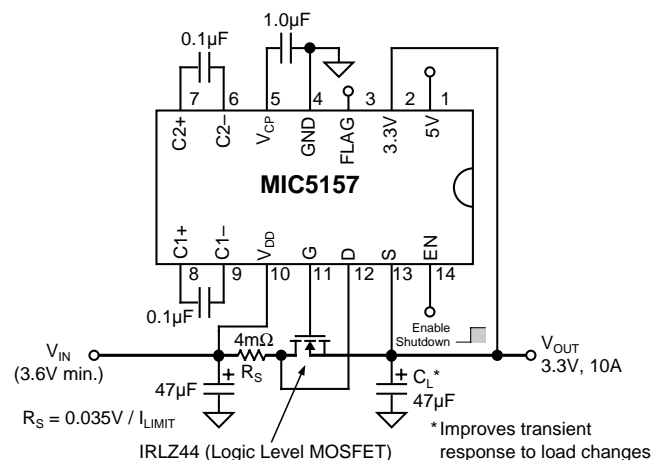

Figure 4-11. Regulator Circuit Diagram
Figure 4-11 is a circuit designed to produce a 3.3V, 10A output from a 5V input. Meeting the design goal of occupying minimal PC board space required minimizing sense resistor area. This resistor is shown as R_S .
The 4mΩ current-sensing resistor (R_S) of Figure 4-11 is designed as follows: (1) based on copper trace height and an allowed temperature rise for the resistor, calculate the sheet resistance using Equation 4-1; (2) based on the maximum current the resistor will have to sustain, calculate its minimum trace width using Equation 4-2; and (3) based on the desired resistance, calculate the required trace length using Equation 4-3.